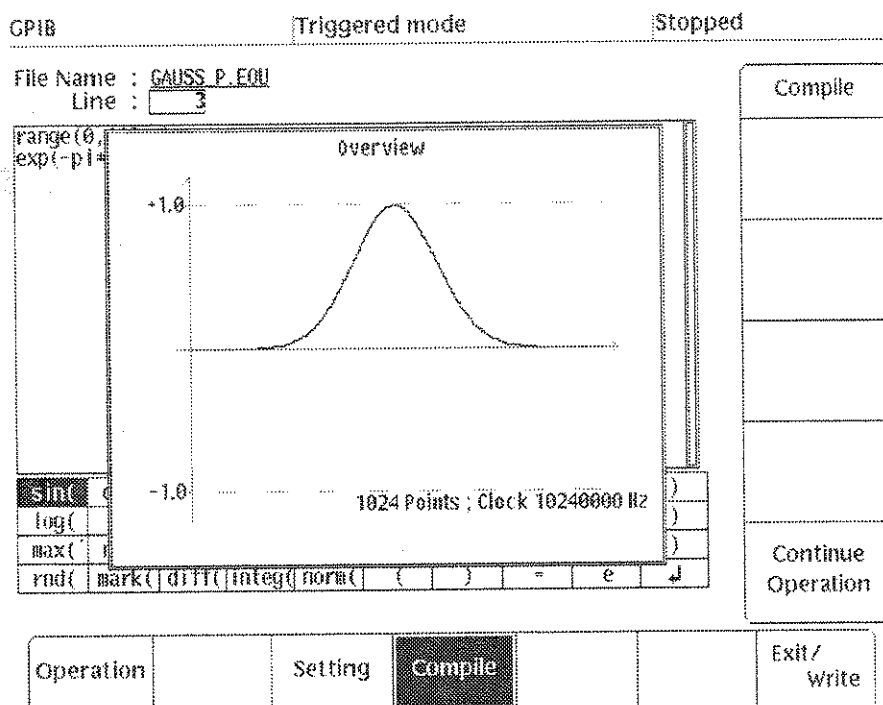

Figure 4A-121: Example of Compiled Waveform Display
- Step 2:** The equation is converted into waveform data and the waveform is displayed. Along with the waveform, the set waveform point count and clock frequency are displayed. Figure 4A-121 is an example of the display of a compiled waveform.